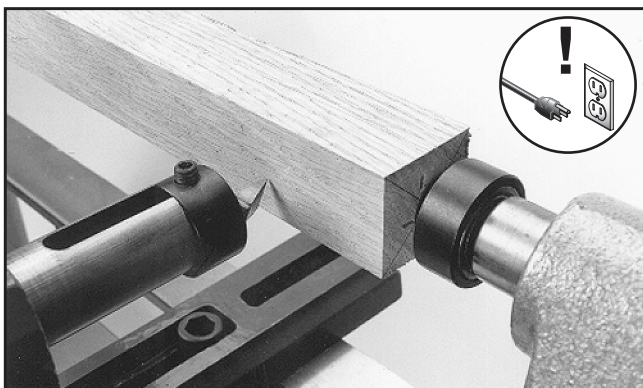

Figure 13. Aligning lathe to copy attachment.
2. Move carriage to one end of copy attachment and advance cross-feed handwheel until cutting tool nearly touches side of blank (see **Figure 13**).